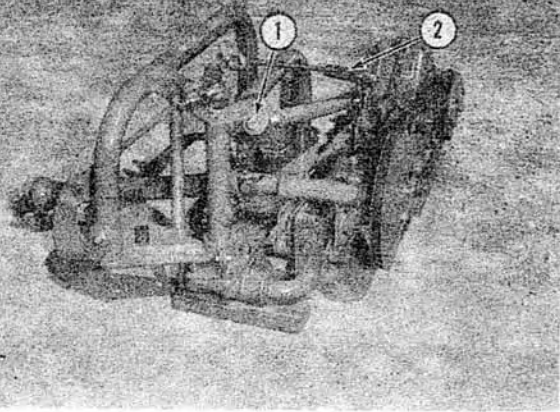

Fig. 8 - Preparing for Width Adjustment
2. Release the tension on the counterbalance spring by means of the adjusting bolt and remove the bolt holding the spring support bracket (No. 1, Fig. 8).
3. Remove the lift rod trunnions from their retaining links (No. 2, Fig. 8) by removing the four 3/32 inch cotter pins.